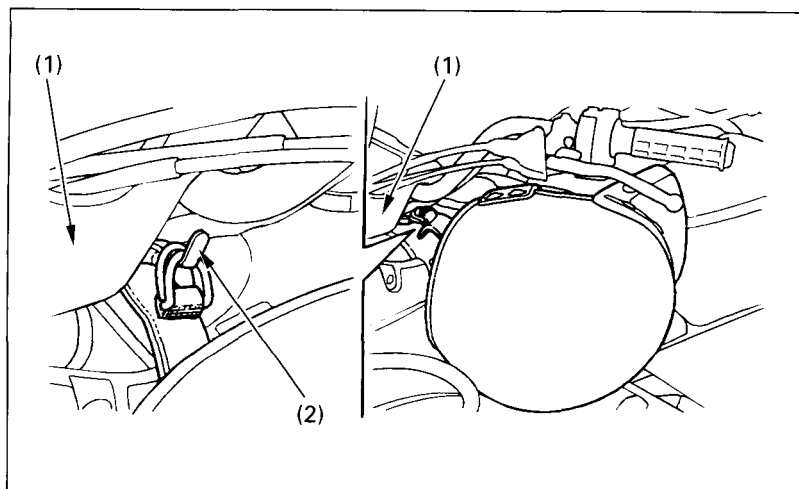

Fig. 2-20 (1) Handlebar cover
The helmet holder (2), (Fig. 2-20) is a bracket near the left side of the handlebar cover (1). To use the holder, hang the D-ring on your helmet strap over the bracket. Use the helmet holder only when the FOURTRAX is parked.